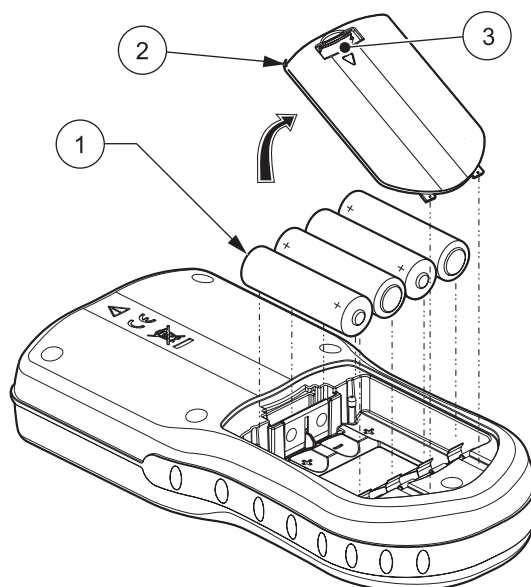

Figure 3 Battery Installation
1. Pull the release tab on the battery cover and remove the cover as shown in Figure 3.